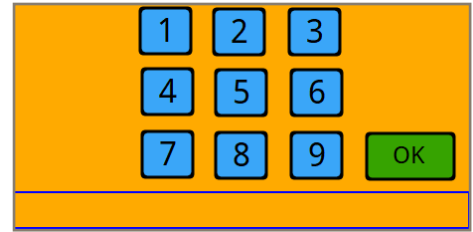

Figure 38
2. If the battery is sufficiently charged, install it onto the pump, the controller screen will turn on automatically. The operator will be prompted to enter the 4-digit passcode assigned to them upon successful completion of Parker SBEx training (Figure 38).